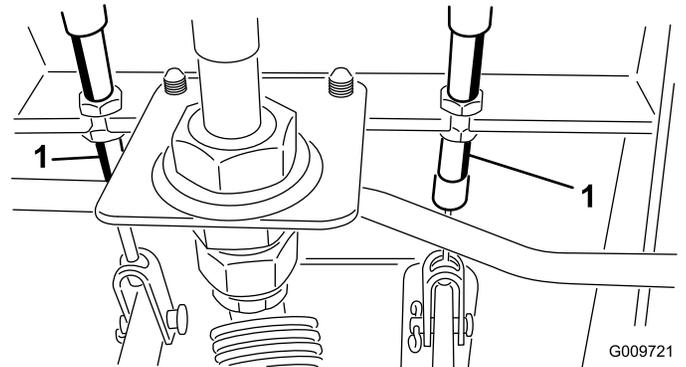

Figure 93
- A. Loosen the front nut on the threaded end of the brake cable (Figure 93).